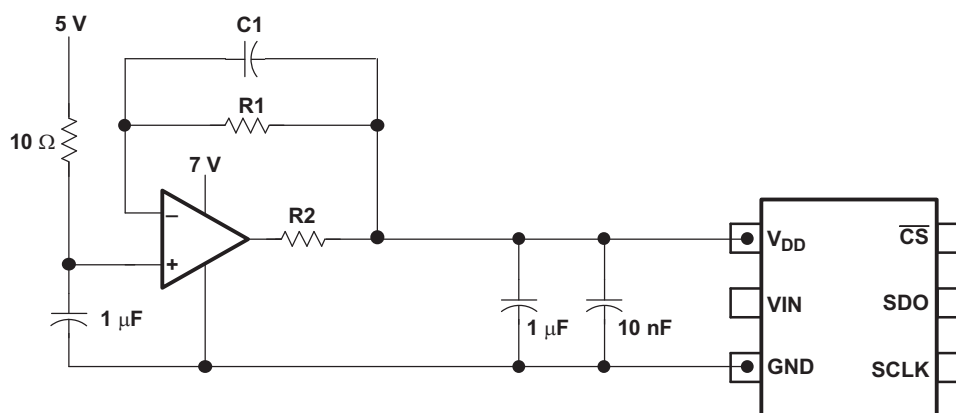

Figure 34. Buffering With the OPA735
- A low-pass filtered system supply followed by a buffer, like the zero-drift OPA735, can also be used in cases where the system power supply is noisy. Care must be taken to ensure that the voltage at the VDD input does not exceed 7 V to avoid damage to the converter. This can be done easily using single supply CMOS amplifiers like the OPA735. Figure 34 shows one possible application circuit.